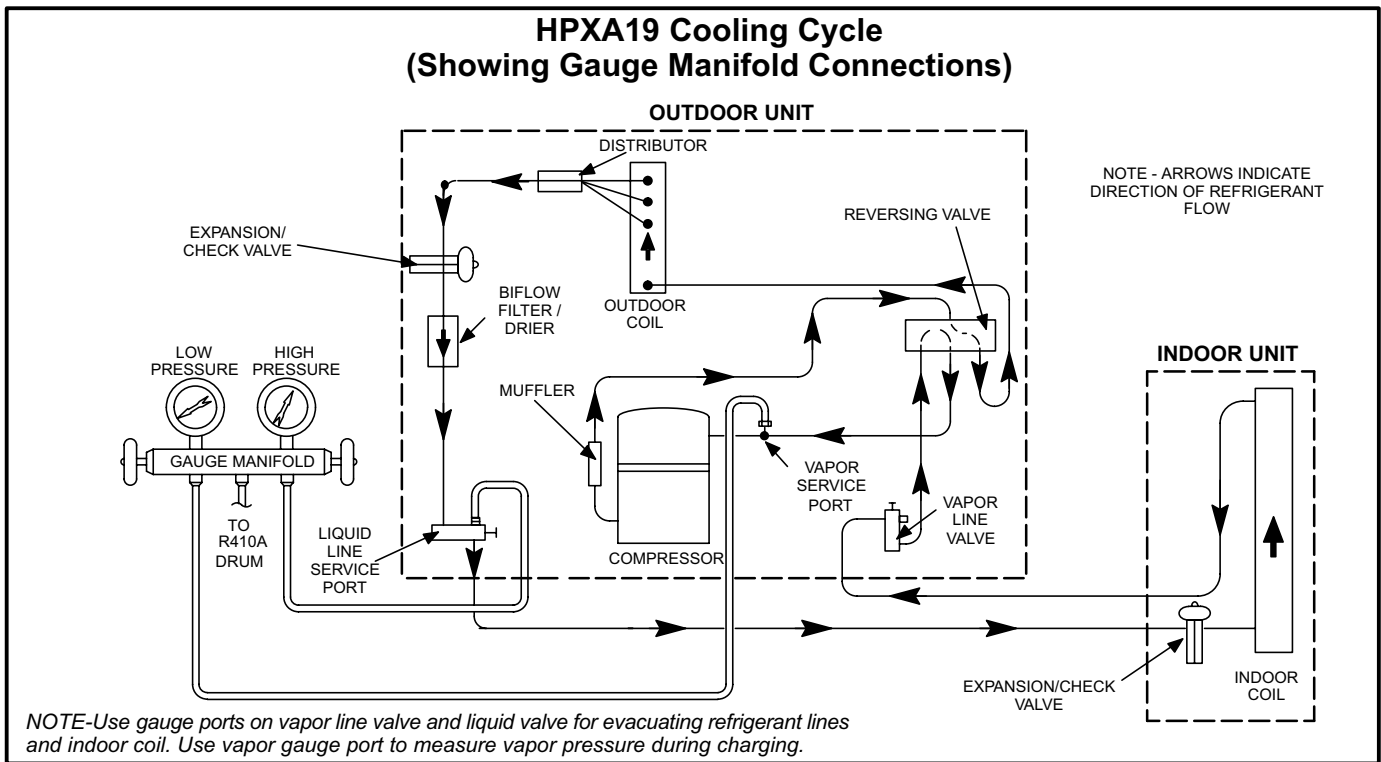

Figure 18
- 1 - Connect manifold gauge set to service valves as shown in figure 18: